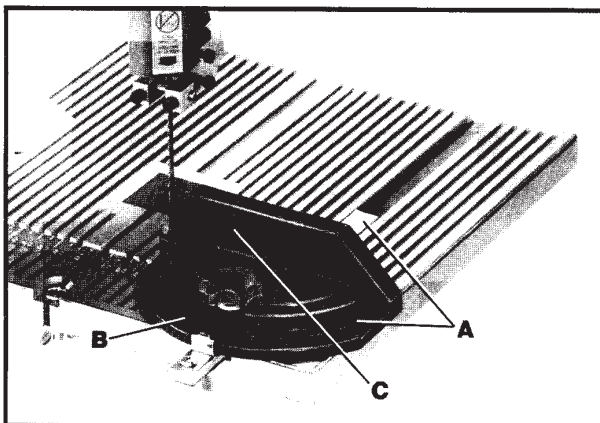

Fig. 29
A miter gage (A) Fig. 29, is supplied with your band saw. The miter gage body (C) can be adjusted up to 45 degrees right and left by loosening lock knob (B), rotating miter gage body (C) to the desired angle, and tightening lock knob (B).